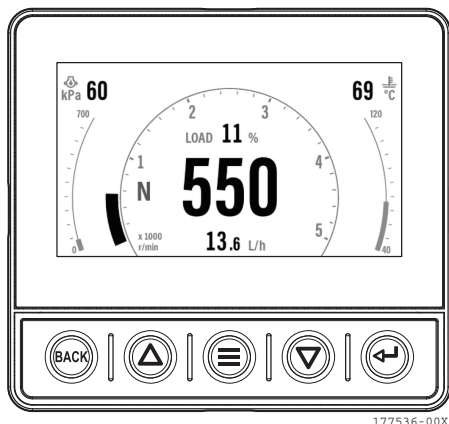

Figure 61
- When the engine starts, the VC30 display will show the screen with engine conditions (**Figure 61**).